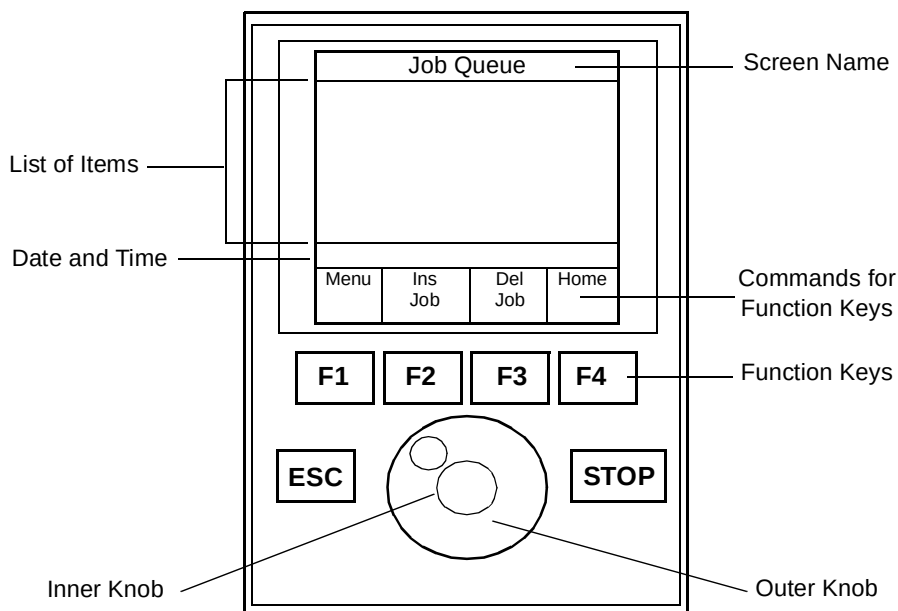

Figure 1-3 2777 Keypad
- Locally on the 2777 keypad using Cycle Composer software (Figure 1-3)